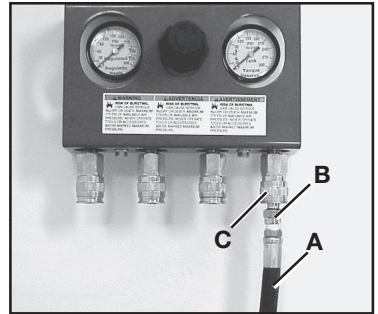

Fig. 4
1. Attach 3/8” hoses (A) with 1/4” industrial quick-connect fittings (B) to the outlets (C). One to four tools can be used at the same time. See Figure 4.
4. Attach 3/8" hoses (A) with 1/4" industrial quick-connect plugs (B) to the outlets (C). One to four tools can be used at the same time. See figure 4.